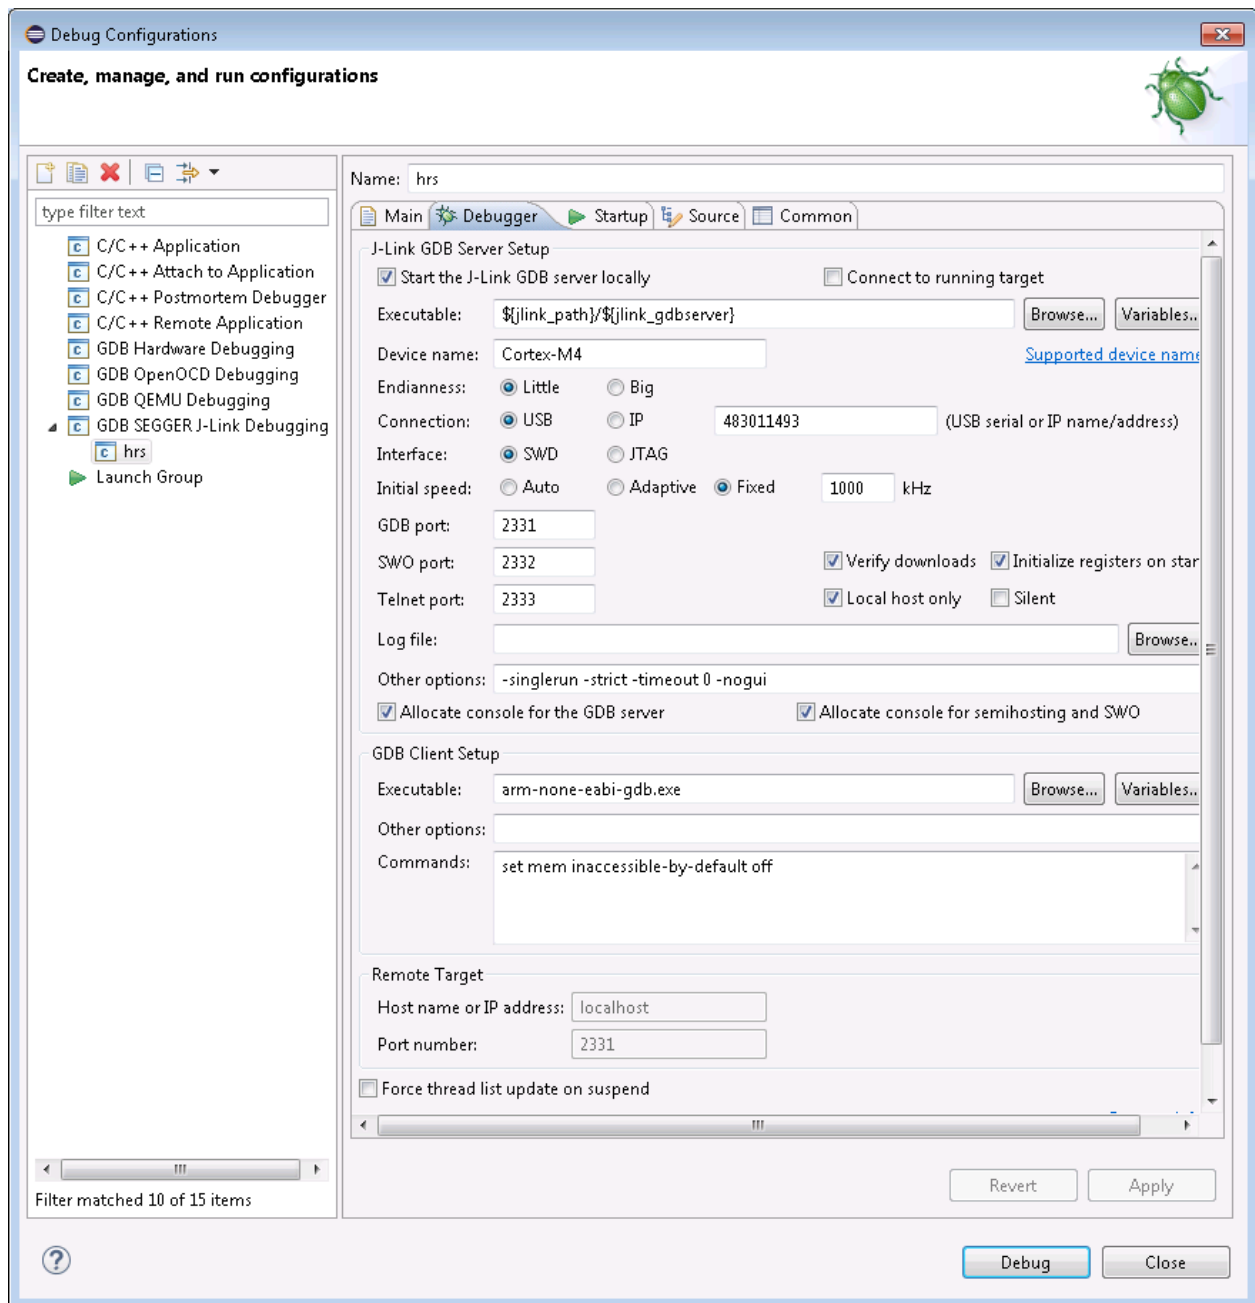

Figure 29: Debugger tab in the Debug Configurations for the hrs app
10. In the Executable field, enter the following: *arm-none-eabi-gdb.exe* (Figure 29).